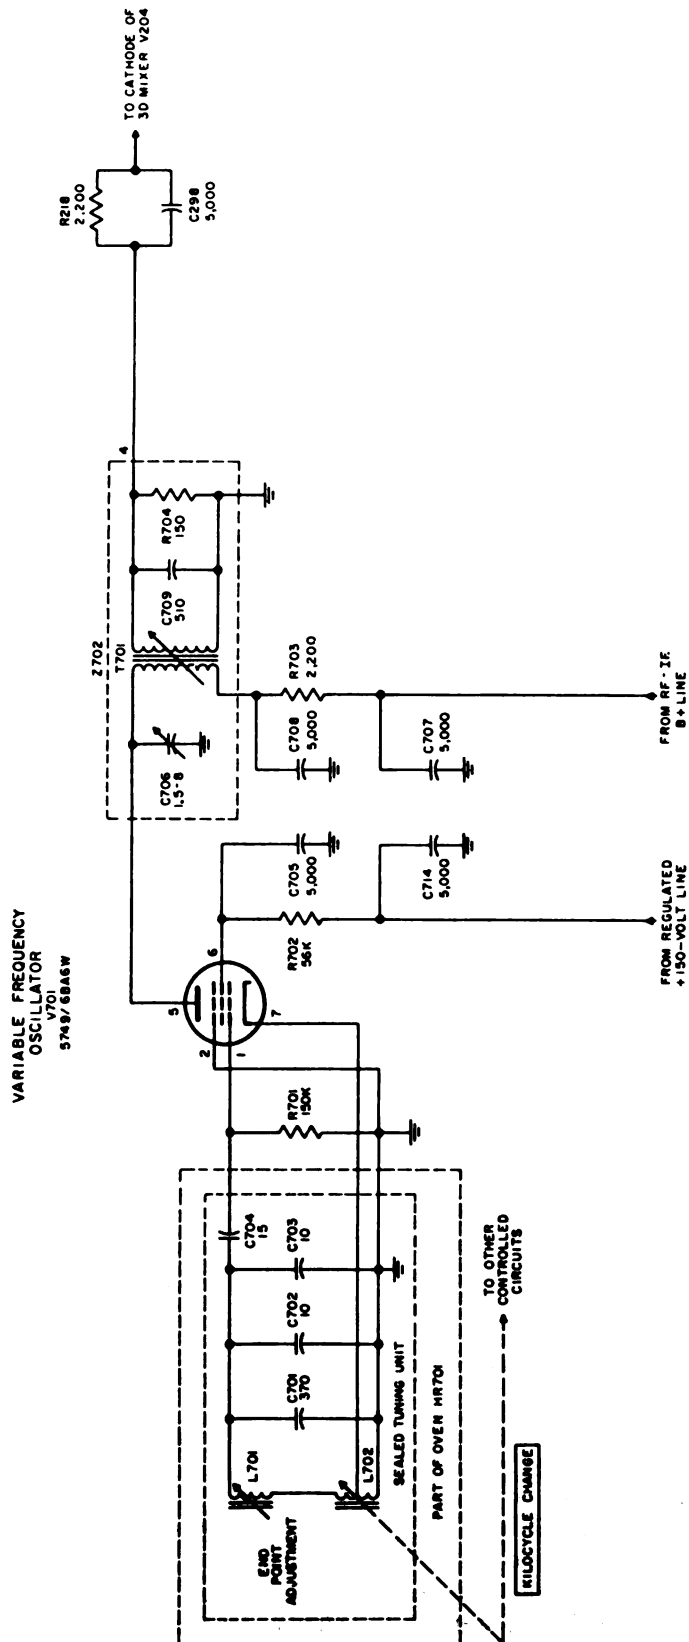

Figure 10. Variable-frequency oscillator V701, simplified schematic diagram.
13. Variable-Frequency Oscillator V701 (fig. 10)